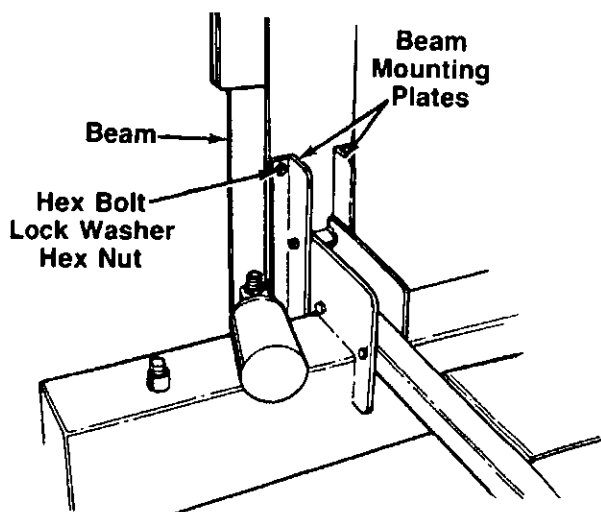

FIGURE 5.
2. Remove the four hex bolts, lock washers and hex nuts from the beam mounting plates. A 5/8" and an 11/16" wrench are required. See figure 5.